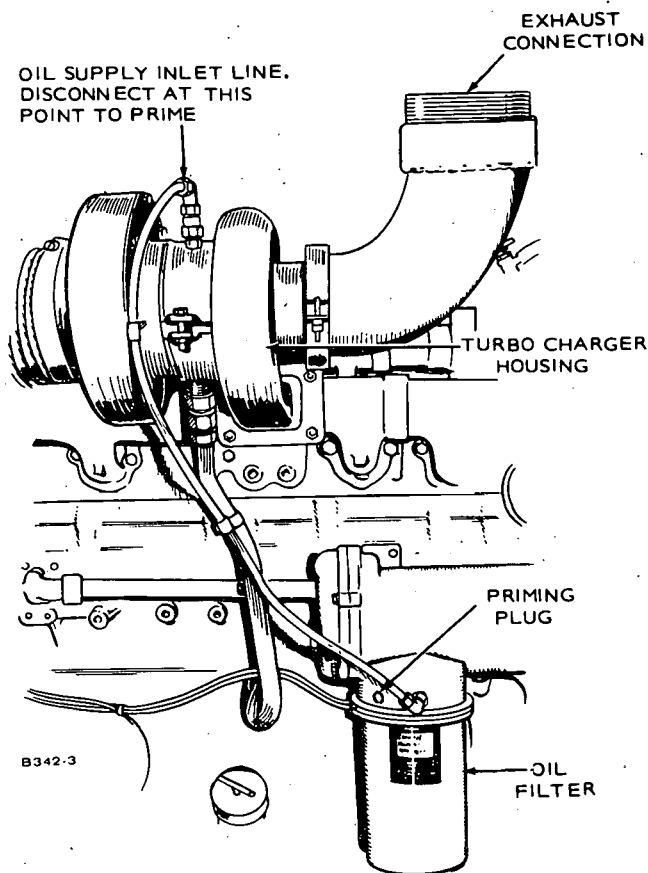

FIGURE 22. PRIMING TURBOCHARGER
1. Remove oil inlet line from turbo-charger housing (Figure 22), fill bearing housing with clean engine lubricating oil; replace line, secure.
3. Remove plug from head of oil filter housing (Figure 22) and connect a hand or motor-driven priming pump from a source of clean lubricating oil to the plug boss in filter housing.